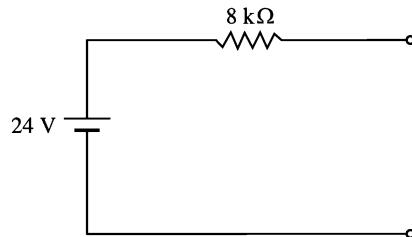

Fig. 1.49
3. Convert the voltage source in Fig. 1.49 into equivalent current source. [3 mA in parallel with 8 kΩ]